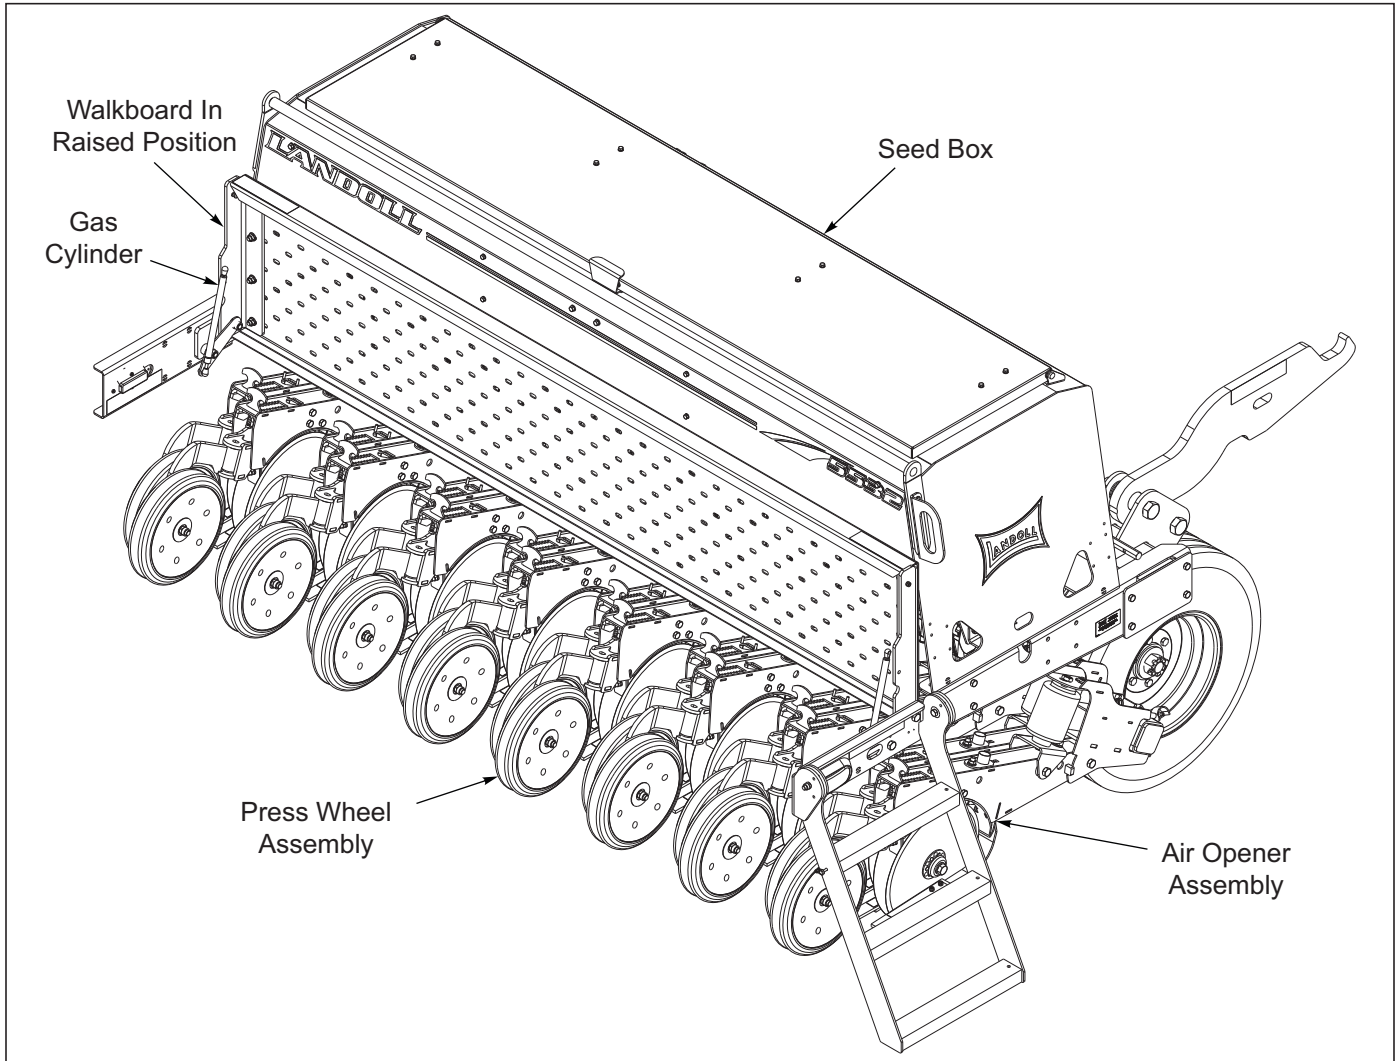

Figure 4-38: Walkboard Adjustment
1. The walkboard on the Grain Drill provides a stable platform to work from while filling the seed box **See Figure 4-38.**